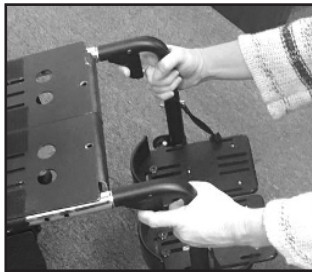

Fig. 7
3. Install 90° removable front riggings by squeezing red levers on both right and left sides and slide onto leg rest extension tube. Fig. 7